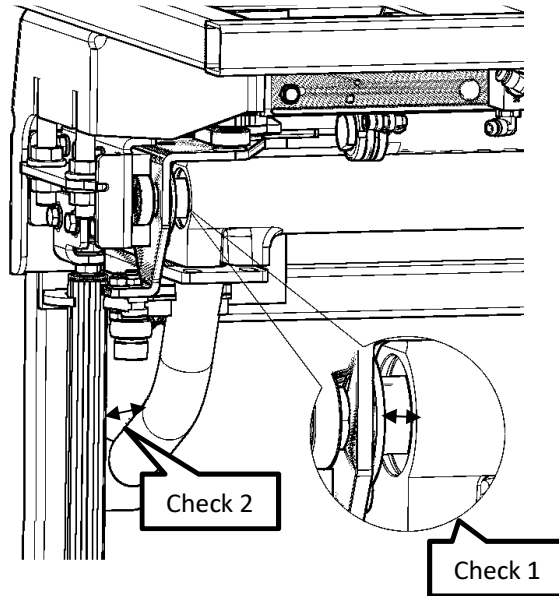

Figure 1.18: Distance-X
1.	<p>First identify the type of catch block using figure 1.18 to 1.20. Check if the catch wedge is caught by the catch block when closing the door. If not then readjust the alignment of the catch wedge. If so, recheck paragraph 1.2 point 3 to see if the space between the door leaves is still 102 ± 2mm.</p>